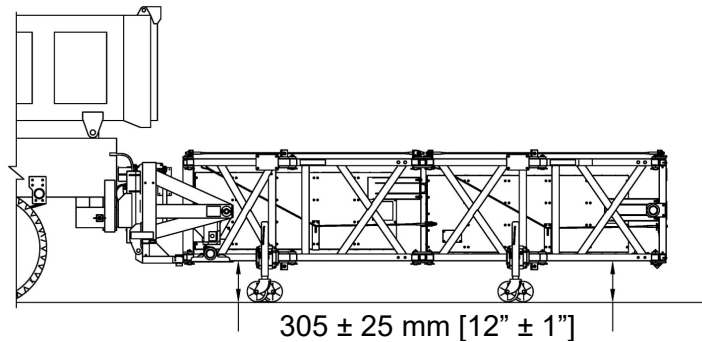
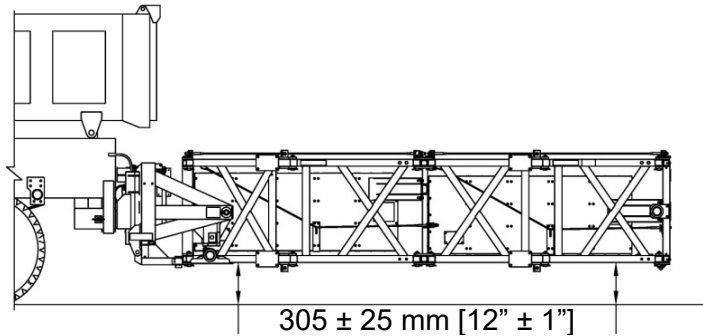

Figure 3
Figure 4
1. The TMA should be rigidly fastened to the truck. In the horizontal position, the bottom of the TMA should be 280 to 330 mm [11" to 13"] from the ground and level (Figure 3). The TMA must be left in the down position whenever possible. The TMA can only absorb the energy of an impacting vehicle within NCHRP Report 350 criteria in the down position.
2. Jacks may be used to support the TMA when it is off the truck (Figure 3). The Jacks must be stored or removed while the TMA is attached to the truck (Figure 4).